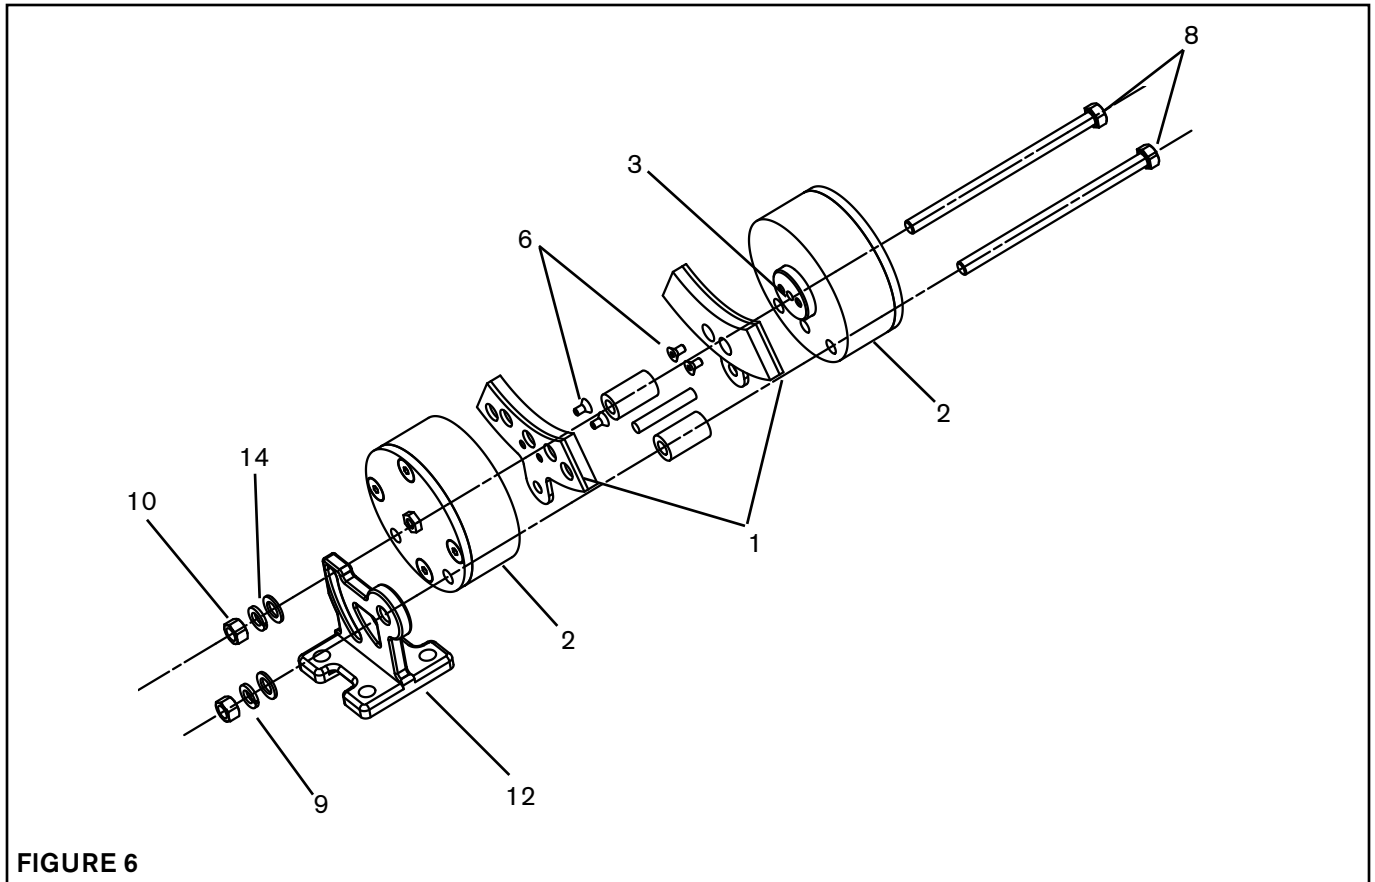

FIGURE 6
1. Remove the two Hex Head Screws (Item 8), Hex Head Nuts (Item 10), Lock Washers (Item 9), and Flat Washers (Item 14). Then remove the two Cylinders (Item 2) from the "T" Support (Item 12) (See Figure 6).
2. Separate the two Cylinders (Item 2) (See Figure 6).
3. Remove the Flat Head Cap Screws (Item 6) securing the old Friction Facing Assemblies (Item 1) to the Piston (Item 3) (See Figure 6 & 9).
4. Apply Loctite® 242 to the threads of the Flat Head Screws (Item 6); then secure the new Friction Facing Assemblies (Item 1) to the Pistons (Item 3) (See Figure 6 & 9).
6. Using the two Hex Head Screws (Item 8), Hex Nuts (Item 10), Lock Washers (Item 9), and Flat Washers (Item 14), secure the two Cylinders (Item 2) to the "T" Support (Item 12) (See Figure 6).
1. Remove the two Hex Head Cap Screws (Item 8), Hex Head Nuts (Item 10), Lockwashers (Item 9) and Flat Washers (Item 14). Then remove the two Cylinder Assemblies (Item 2) from the "T" Support (Item 12). (See Figure 6).
2. Separate the two Cylinder Assemblies (Item 2) and set the Spacers (Item 13) and Pin (Item 4) aside. (See Figure 6 & 9).